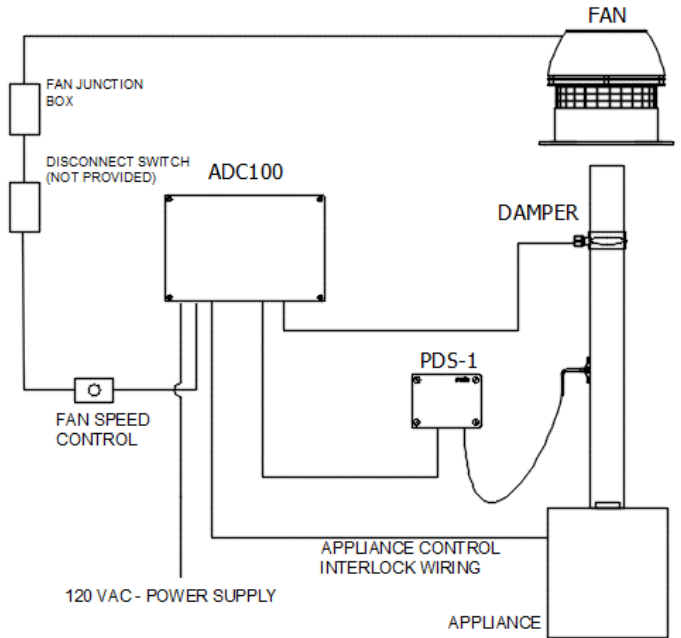

FIGURE 45
1. The ADC100 Control Unit must be installed indoors. As shown in **Figure 45**, the control will be wired directly to a 120/1/60 VAC power supply. The control will also be connected to the fan, appliance, and damper